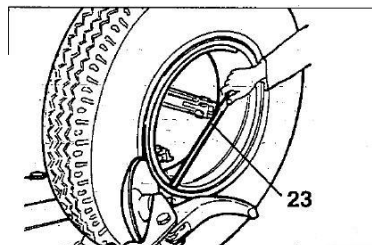

Fig.7.17
- 5) Repeat this procedure but this time bring the disk against the split-ring (See Fig.7.17) until the lock ring is freed. Remove this with the special lever LC (23, Fig.7.17) or with the help of the disk.
- 5) Repeat this operation but this time move the disk against the split-ring (See Fig.7.17) until the locking ring is released, this ring can be removed with the special LC lever (23, Fig.7.17) or with the help of the bead disk.